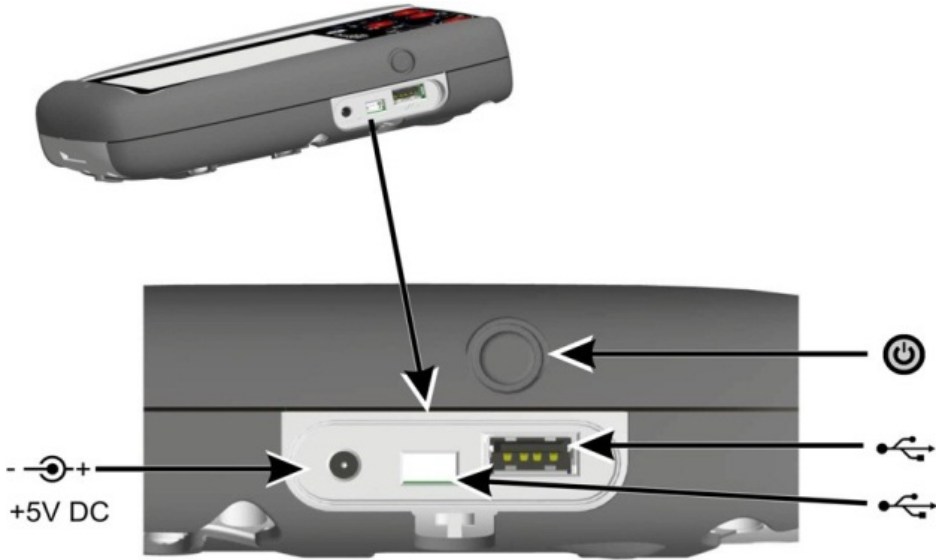

Figure 1-3
1. Connect the DC power supply into the +5V DC connection on the side of the unit (Ref: Figure 1-3).
2. The battery can also be charged using the USB connections (Ref: Figure 1-3).
From OFF – momentarily press the power button until the display flashes (Ref: Figure 1-3) .